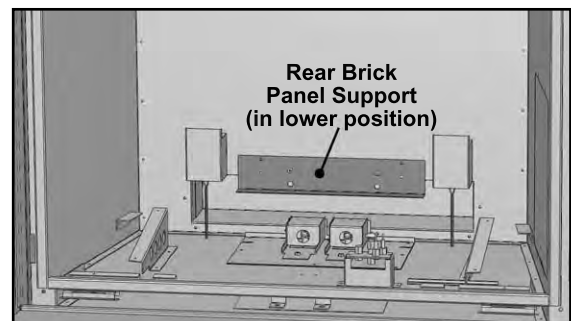

Figure 59: Rear Brick Panel Support.
1. Prior to installing the firebox liners, you will need to ensure the Rear Brick Panel Support is in the correct position. The support is located at the back of the firebox (see Figure 59) and can be installed in two (2) positions. The upper position (using the lower screw holes) is for the October Panels. The lower position (using the upper screw holes) is for the Sandstone, LedgeStone, and Porcelain Panels. Remove the Support, if necessary, and move it to the appropriate placement.
2. Ensure the Rear Brick Panel Support is in the lower position. The support is located at the back of the firebox (see Figure 59). Remove the Support, if necessary, and move it to the appropriate placement.